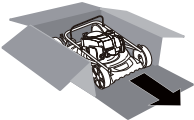

Fig.2
1. Cut down two end corners of box and lay end panel down flat (Fig. 2).